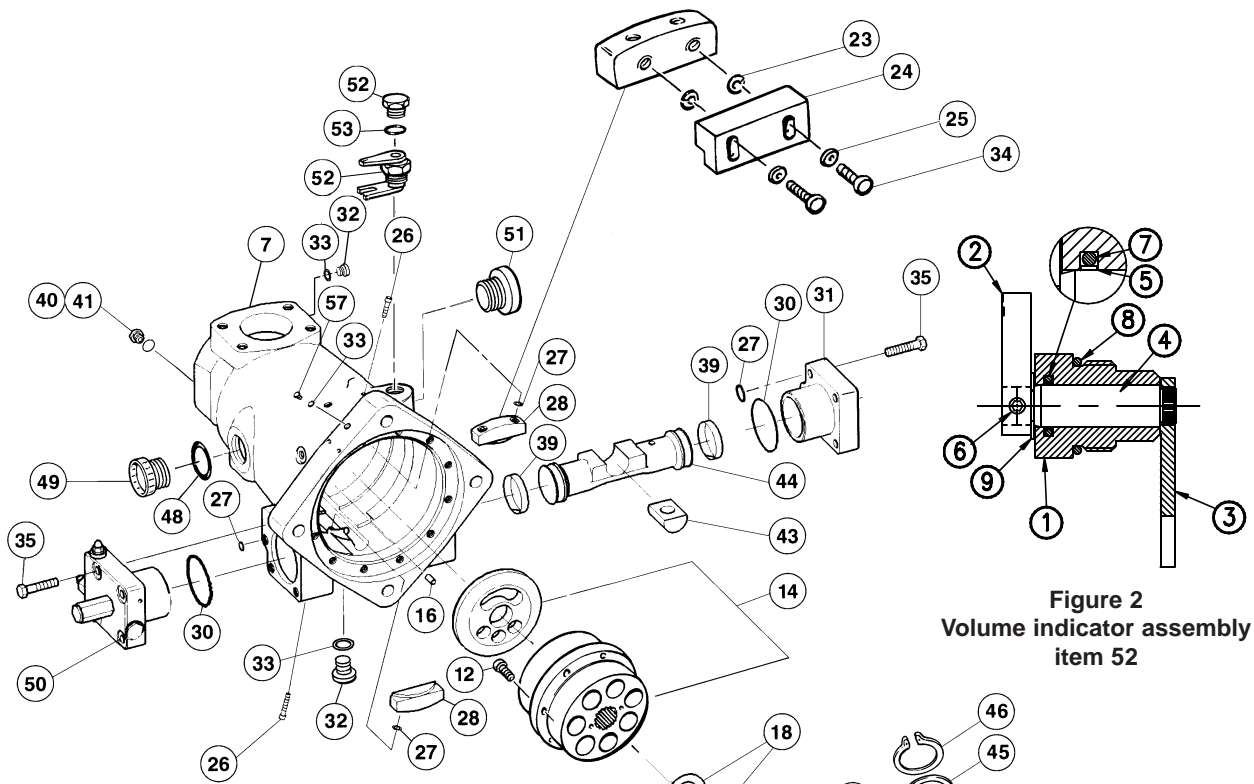

Figure 2
3. Remove cradle assembly (6) from the housing. The 3/8-16 threaded hole in end of the shaft is provided for lifting this assembly.
5. Remove snap ring (4).
6. Remove screws (47) to remove cam bearings (42).
7. Remove shaft, bearing, and seal retainer assembly (1). Support flat face of the rocker cradle and press end of shaft opposite the bearing end.
9. Remove retaining ring (20).
11. If pump contains a volume indicator assembly (52): *Refer to Figure 2:* Remove indicator pointer (2), retaining ring (9) and pivot nut (1) from pump housing. Remove pivot shaft and fork assembly (3) and (4) through the hole.
12. Remove two screws (34), two washers (25), clearance bearing (24), and two washers (23) from retainer (28).
13. For compensator, torque limiter or load sensing control pumps, wind maximum volume screw CCW until piston (44) bottoms out.
14. Remove control cap (50) and control cap (31). (*Refer to controls section for control disassembly*).
16. Lift cam assembly (10) from pump. (Link (43), pistons and shoes and retainer plate(17), wear plate (22), and hold-down (45 and 46) are part of the cam assembly.)
17. Remove slide link (43), retaining ring (46), thrust washer (45), pistons, shoes & retainer assembly (17) and wear plate (22). The pins for the slide link and for the indicator have been pressed into the rocker cam and should not be removed.
18. Remove two screws (34), two screws (26), and two retainers (28).
19. Remove Belleville washers (18) and barrel stop (19).
20. Attach tool (T-1) (pg. 77) to barrel assembly (14). (Two M6 screws are required.) Lift barrel from port plate and housing.
21. The inner race of bearing (11) has a light press fit with barrel. Do not remove the inner race unless bearing needs to be replaced. If replacement is necessary, remove seven socket head cap screws (12). Replace with M6 x 6 1/2 in., 165mm long soc hd cap screws. Rest assembly on the extended screws. Press barrel from inner race. Care must be taken to avoid damage to barrel face.